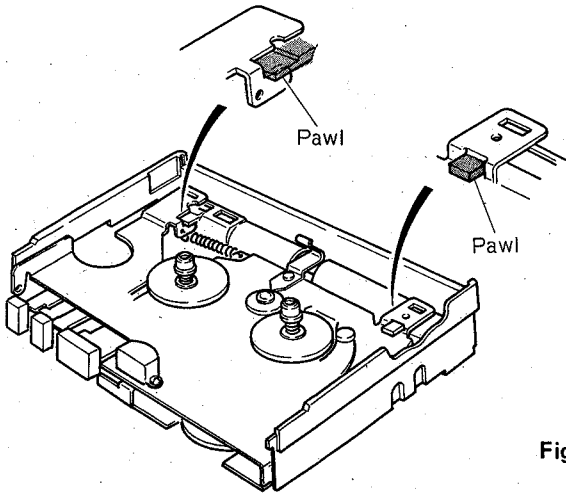

Fig. 5
2. Make certain that the hooks of the battery box are fixed correctly to the chassis, after mounted. (See Figure 5)